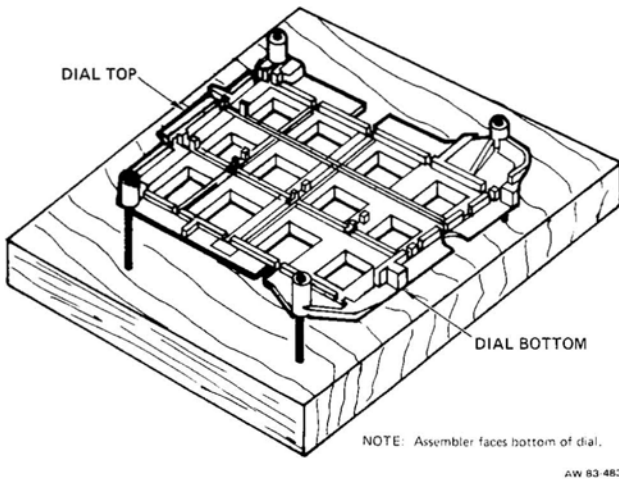

Figure 6: Holding Fixture
(See Figure 6.)
- (a) Place the cover plate face down on a holding fixture. (See Figure 6.)